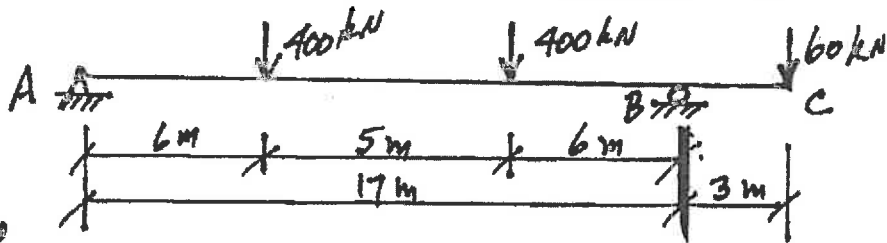

FIGURE 2
2. The prestressed concrete beam ABC in Figure 2 is hinged at A, rolled at B, with a cantilever BC. Using a T-section and steel strands for post-tensioning: